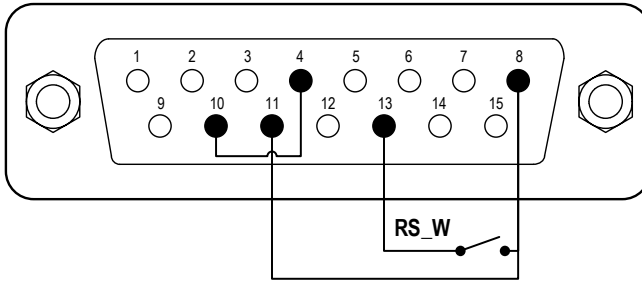

Figure 19. Logic Level Control with Internal 12V Power Source
- 1) Switch the power of the pump off. Wire the DB15 connector as shown on *Figure 19* or *Figure 20*, and connect it to the DB15 port on the rear of the pump.